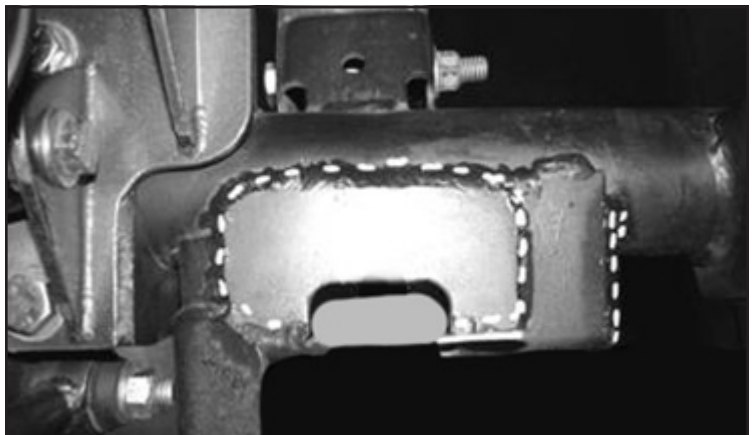

FIGURE 10 - STEP 9
9. Locate FT50343 gusset, position it onto the top of the axle and trac bar mount. Weld the gusset as shown in the photo. **SEE FIGURE 10**